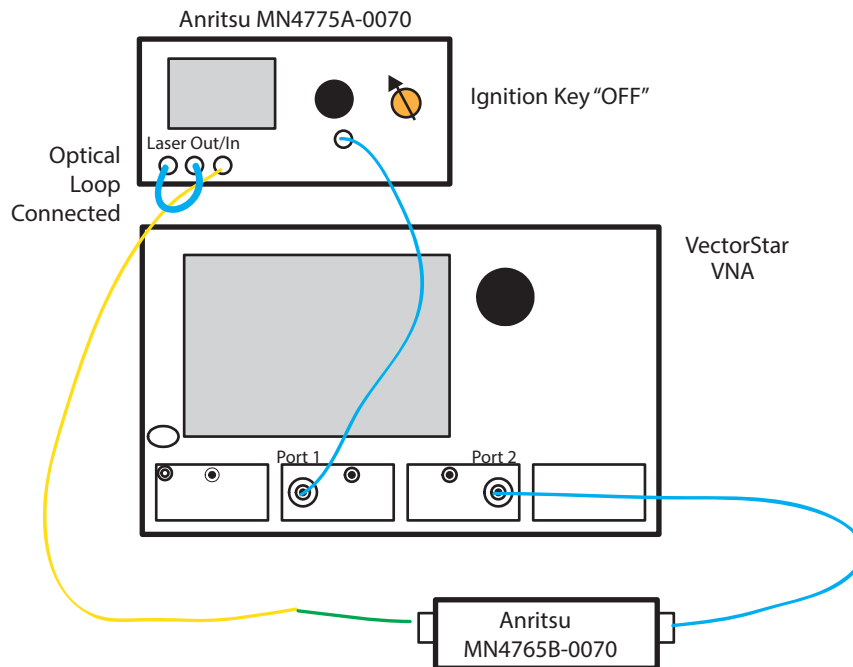

Figure 3-46. Turning Off Laser
11. Set E/O Converter Ignition key to **OFF**, see figure Figure 3-46.